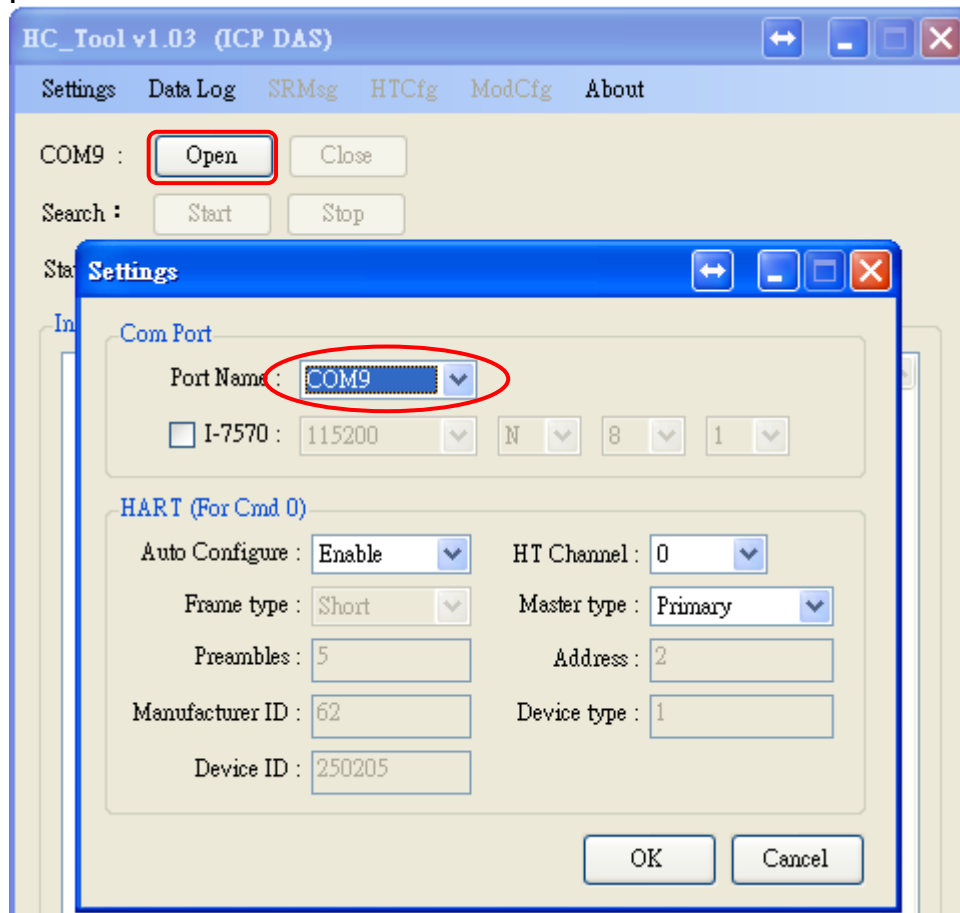

Figure 3-1: “Settings” function of HC_Tool
Step2: Run the “I-7547 Utility”, **HC_Tool**, and click the “Settings” item like Figure 3-1 to configure the serial connection and HART command parameters.